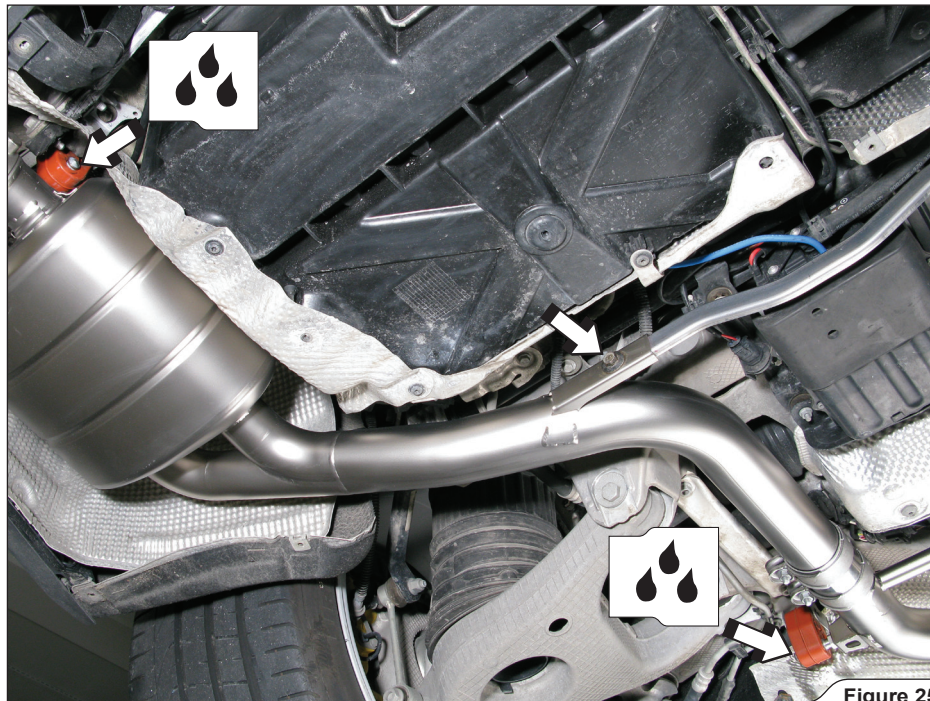

Figure 25
12. **For all vehicle models:** attach the mufflers onto the original rubber brackets, hand tighten the original muffler linkage and slide the Akrapović double clamps over the joints (**Figure 25**).